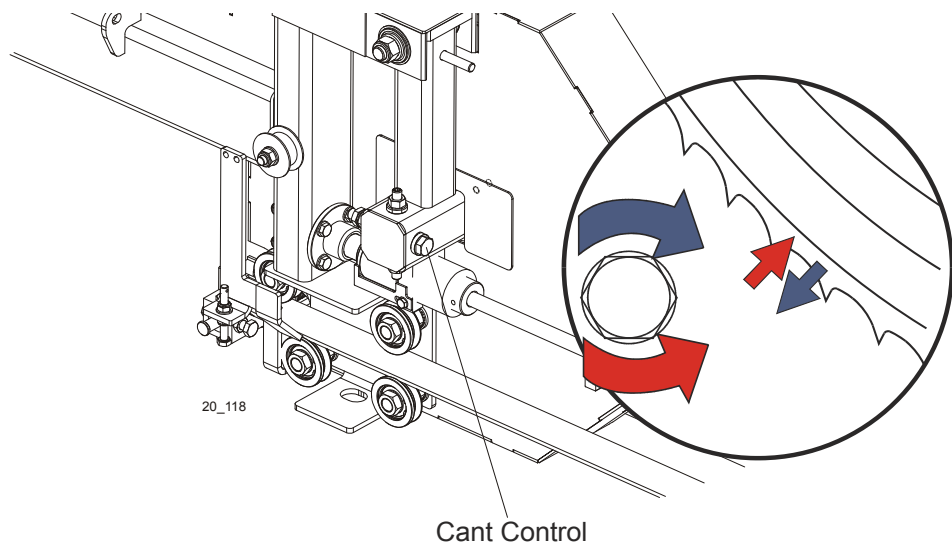

FIG. 5-7
**See Figure 5-7.** Use the cant control adjustment to adjust the idle-side blade wheel. If the blade is too far forward on the wheel, turn the cant control counterclockwise. If it is too far back on the wheel, turn the cant control clockwise.